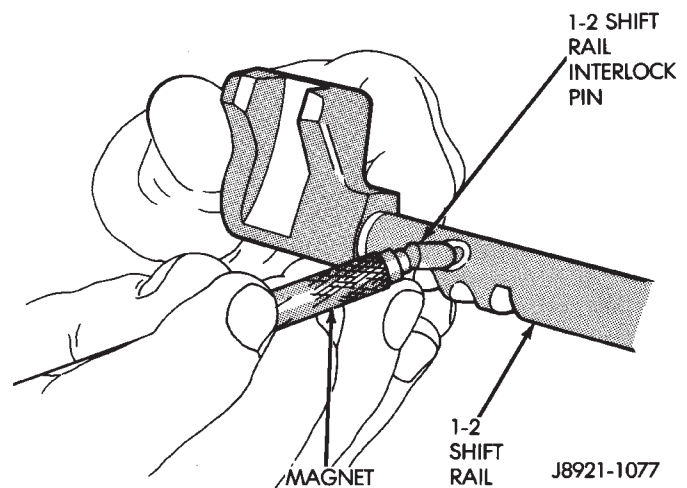

Fig. 91 Installing 1-2 Shift Rail Interlock Pin
(7) Coat 1-2 shift rail interlock pin with petroleum jelly and insert it in shift rail (Fig. 91).